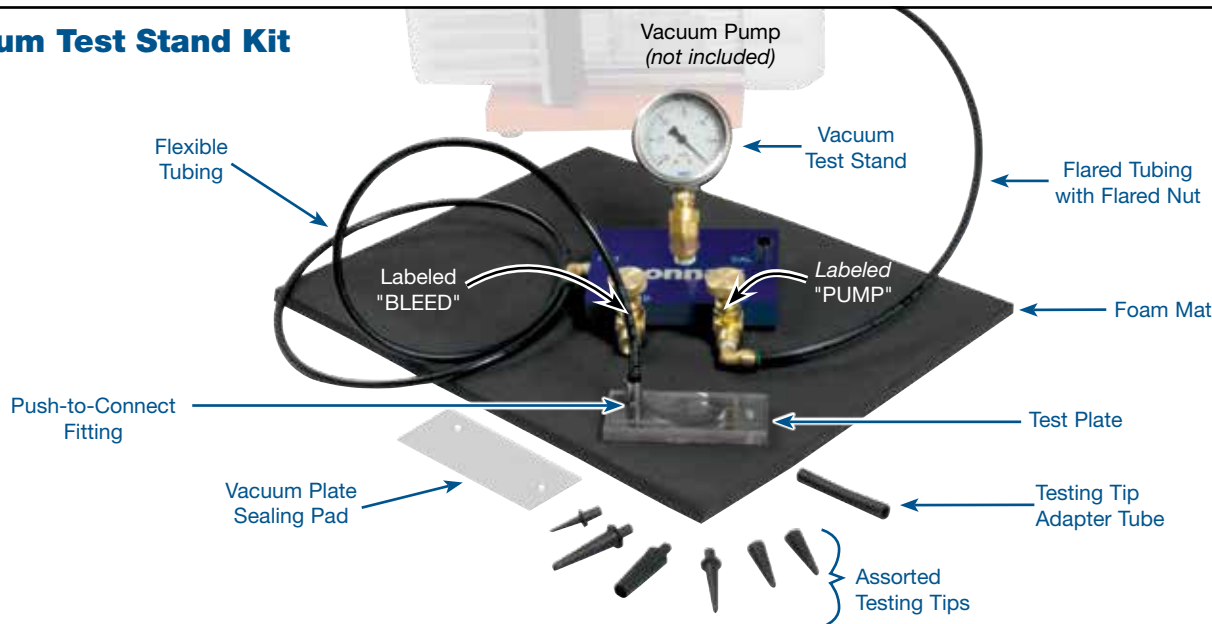

Figure 2
- Using Sonnax vacuum test stand kit **VACTEST-01K** (sold separately, **Figure 2**) and small vacuum tip, vacuum test at numbered orifices on plate. These numbers correspond to the bore numbers called out in the exploded view of the valve body on page 6. The chart on page 8 provides descriptions of individual circuit checked and space to document actual vacuum readings and minimum vacuum standards.